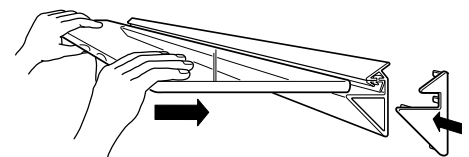

Figure 4
Step 7: Insert end caps into each end of the shelf bracket. Insert glass shelf all the way into the bracket slot. Center shelf so it is even on both ends, as shown in **Figure 4**.